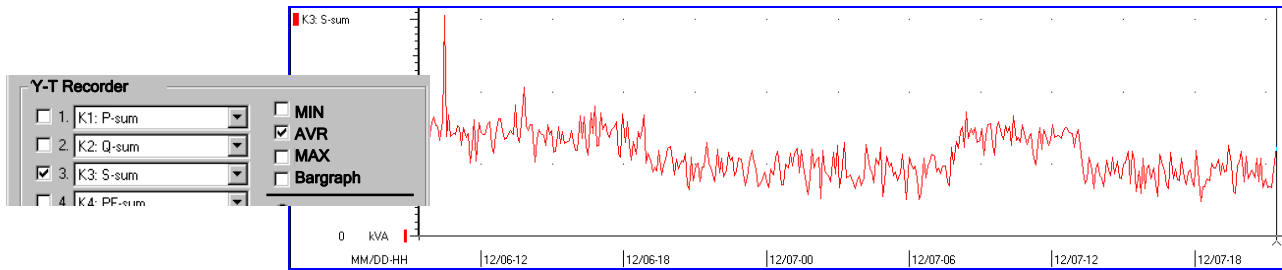

Figure 3.5.4-h: The average value line recorder curve for a measuring channel with compressed time axis suppresses any brief measured value fluctuations.
- ▶ The **MIN/AVR/MAX** checkboxes  are used to specify which saved measured values will be displayed as a Y-T line diagram. If display of all three measurement types is activated, three lines of identical color are generated for each active line recorder channel (→ Figure 3.5.4-i).
Figure 3.5.4-i: Despite compressed time axis, the representation of the line recorder curves for minimum, maximum and average values for a given measuring channel shows measured value fluctuations.